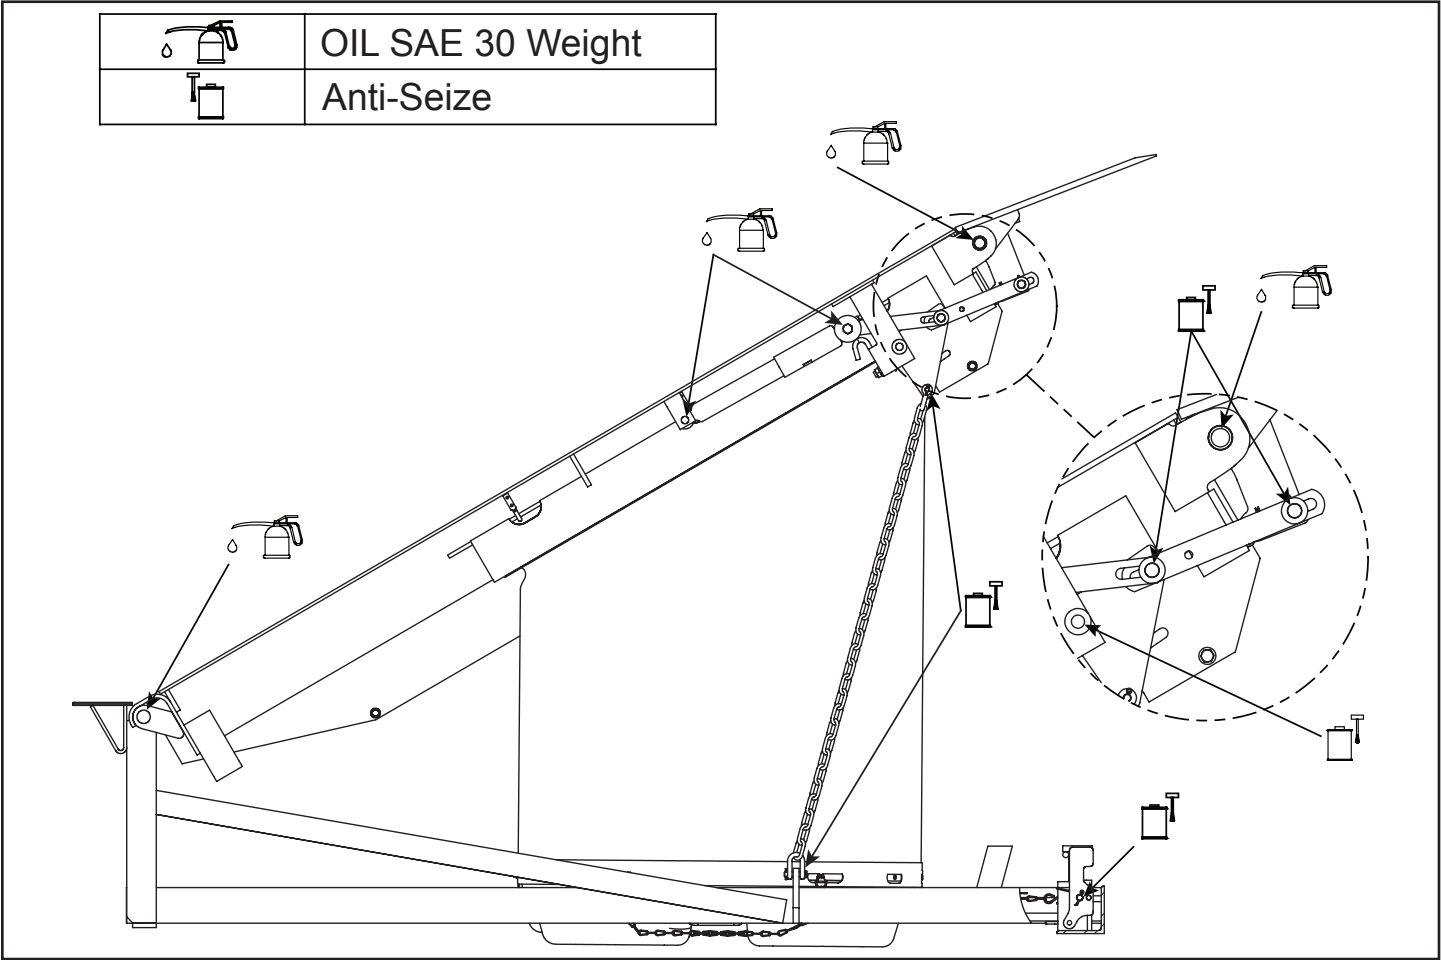

FIGURE 10 - LEVELER LUBRICATION
4. Lubricate the leveler with the proper lubricants. See figure 10.